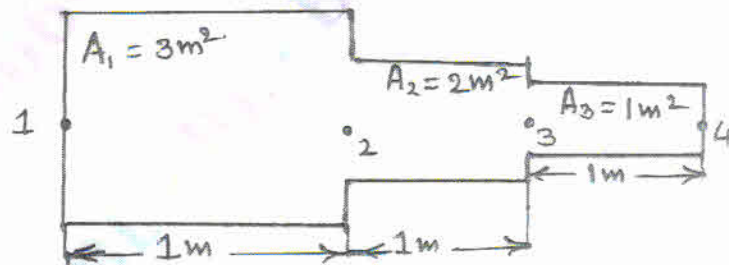

Fig.Q.8
- 8 For smooth pipe of variable cross section shown in Fig.Q.8. Determine the potential at the junctions, velocities in each section of pipe and volumetric flow rate. Potential at left end $P_1 = 10 \text{ m}^2/\text{s}$, right end $P_4 = 1 \text{ m}^2/\text{s}$. Fluid flow through the pipe $K_s = 1$. (20 Marks)